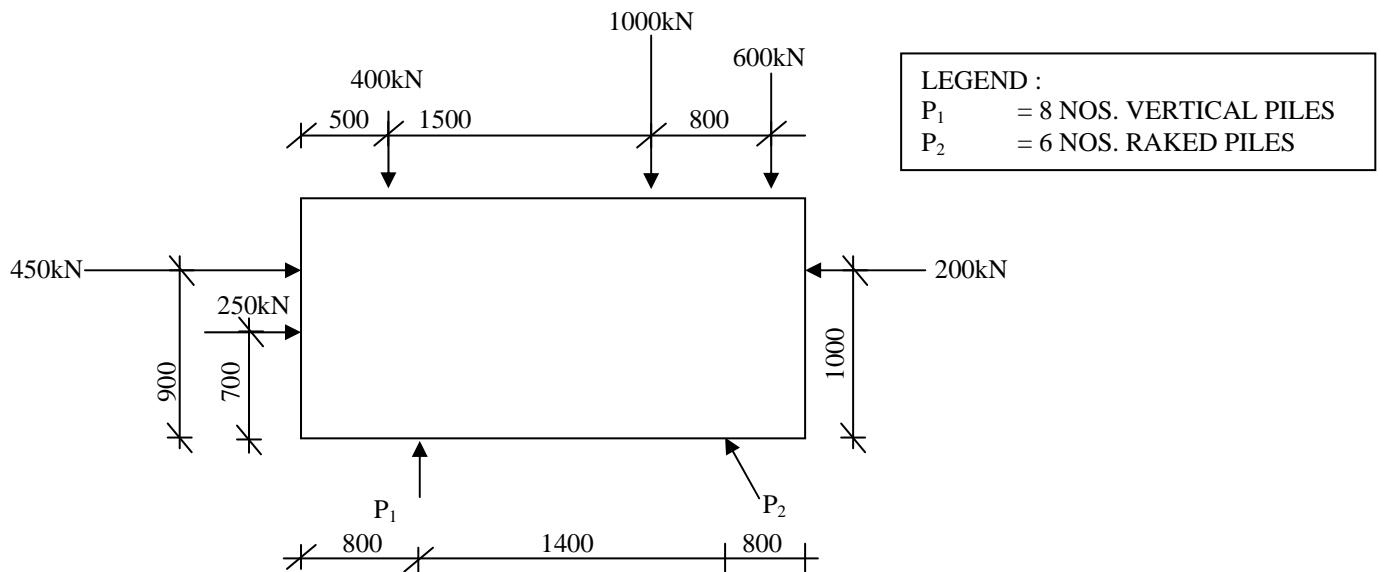

Figure 2 (All dimension in mm)
- b) A typical cross section of an abutment wall having vertical and raked piles is shown in Figure 2. Determine the adequacy of the pile arrangement if the allowable pile working load is 400 kN. The ratio of the raked pile is taken as 1:4.